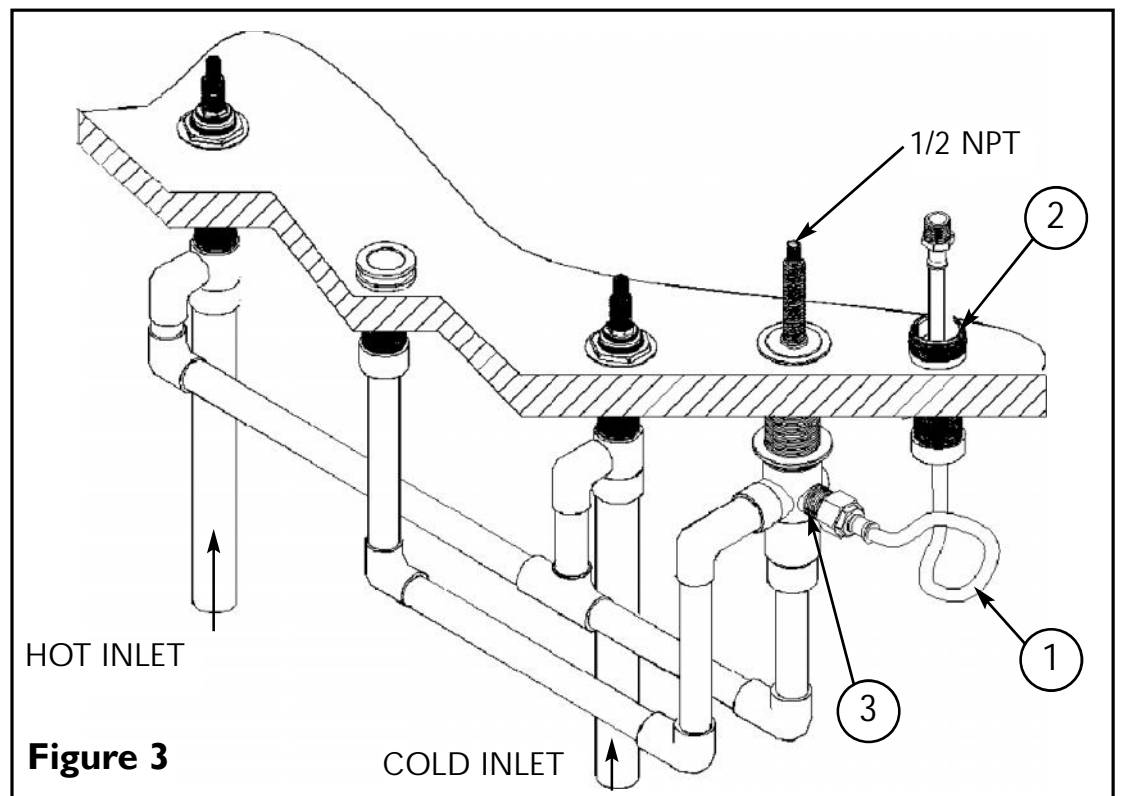

Figure 3
- Make all necessary connections as shown in Figure 3.
- Feed braided hand shower HOSE (1) through DECK FLANGE (2) and attach one end of hose into the hand shower OUTLET (3) of diverter valve.